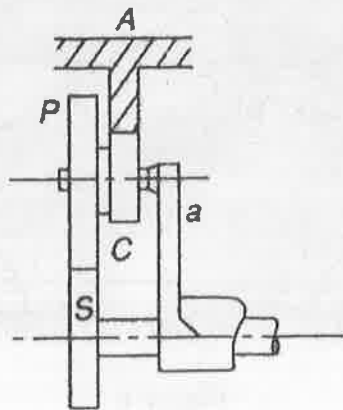

Figure 7
- (b) The number of teeth in the gear shown in Figure 7 are as follows :  $T_s = 18$ ,  $T_p = 24$ ,  $T_c = 12$ ,  $T_A = 72$ . P and C form a compound gear carried by the arm "a" and the annular gear A is held stationary. Determine the speed of the output at "a". Also find the holding torque required on A if 5 kW is delivered to S at 800 rpm with an efficiency of 94%.